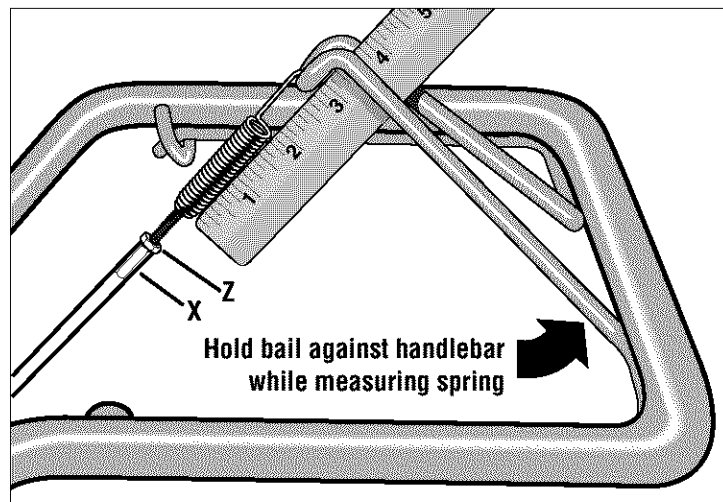

Fig. 2-7: Measure cable spring.
7. Lift and hold the Forward Clutch bail against the handlebar. See Fig. 2-7.
8. Measure the length of the cable spring between the ends of the coils (Fig. 2-7). The length should be approximately 1-7/8". If the length is correct, turn the #10-24 hex nut (Z) down tightly against the cable adjuster (X) while holding the adjuster in place. See Figure 2-7. If the length is incorrect, you must make an adjustment to the cable tension as described in "Checking and Adjusting Forward Drive Belt Tension" in Section 5. When the spring length is correct, tighten the hex nut (Z) against the cable adjuster (X).